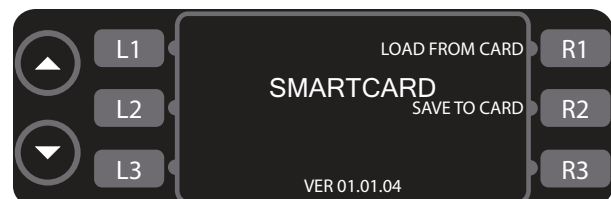

Figure 11: Smart Card Screen
2. Press L3 (fig. 8) to access the smart card screen (fig. 11).
- Press R1 to load a menu from the smart card to the oven (fig. 11).
- Press R2 to save a menu from the oven to the smart card (fig. 11).